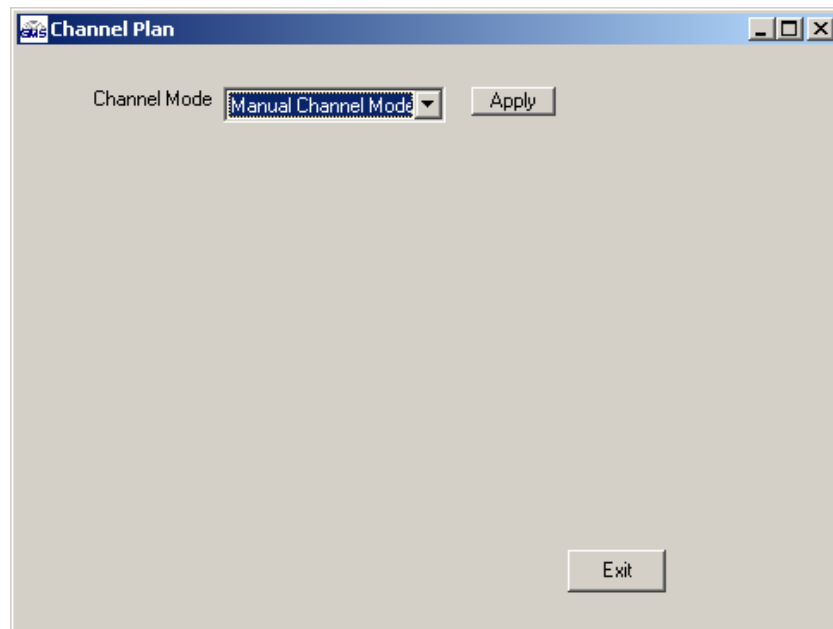

Figure 7 – Channel Plan Opening Screen
- **“Load Group” Button:** The data structure of the M2T is organized into “Groups” of selected fields. A Group contains the following fields (refer to Figure 7 above): ***Carrier Mode, Modulation Mode, COFDM Bandwidth, COFDM mode, Guard Interval, Modulation FEC, Video Frame Size, Video Frame Rate and Input Mode.***
The Channel Plan default channel mode is Manual as shown in the opening screen in Figure 7. The other channel modes available are User Defined, and for S2 band units New BAS and Old BAS. Use the pull down box to select the channel mode and then click on the "APPLY" button (Note: The channel mode can also be selected from the front LCD panel, see section 5.1.1.8.1 under the detail menu under the 'TX